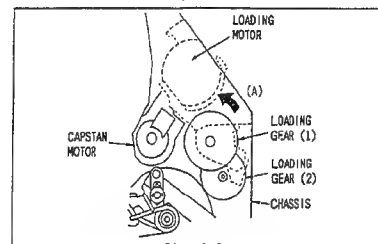

Fig. 1-3
2) When the loading motor is faulty (Fig. 1-3)
- ① Remove the following parts in advance, referring to subsequent items.
- ② Turn the Loading Gear (1) in the direction of arrow (F) to unload. (Fig. 1-3)